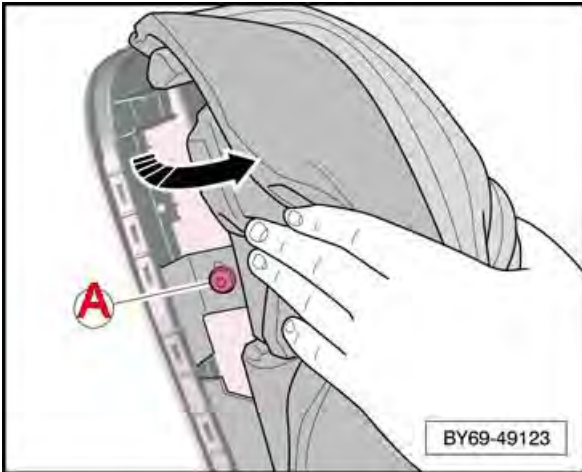

Figure 35
Air bag fastener part number N91042301 torque 9Nm fastener location for 5 seat rear only (see Figure 35)
- Using an in date calibrated torque wrench apply 9Nm to fastener (A) (part number N91042301 - M6 x 16) for rear seats on 5 seat option (see Figure 35 and 39)